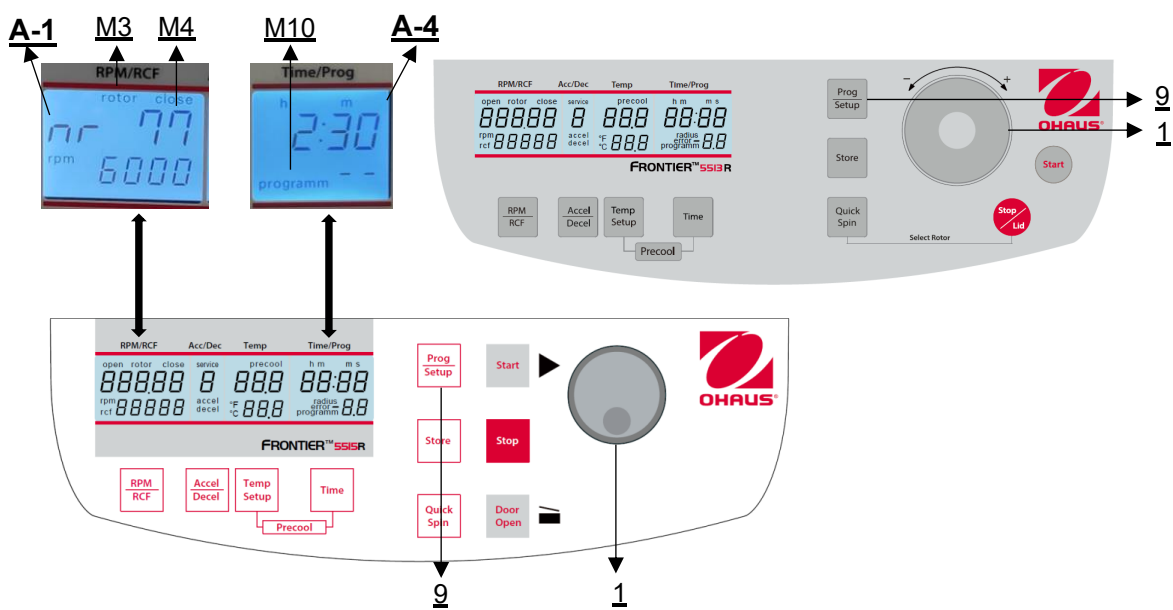

Figure 21
To recall stored programs, press the key **"Prog/Setup"** (9) (see Figure 21) while the lid is already closed. Inside the display **"Time/Prog"** (A-4), **"program--"** (M10) appears. The desired program number can be pre-selected with the touch wheel (1).
To leave the program mode just press the key **"Prog/Setup"** (9) (see **Figure 21**). Then inside the display
You can start the centrifuge either with the **"Start"** key (8) or the **"Quick Spin"** key (6) (see **Figure 21**). By the **"Start"** key (8) you can start stored runs or runs with manually pre-selected parameters. When the respective pre-selected running time has ended the centrifuge will stop automatically. By the **"Quick Spin"** key (6) you can start runs, which will last just a few seconds.